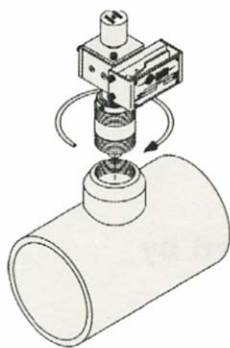

Figure 1
3. Apply thread sealant to bottom threads of 2" NPT Adapter and tighten clockwise the Main Assembly with 2" NPT Adapter into 2" 3000-lb. thread-o-let (Figure 1). Use pipe wrench to securely tighten 2" NPT Adapter, ensuring no damage to the threads occurs.